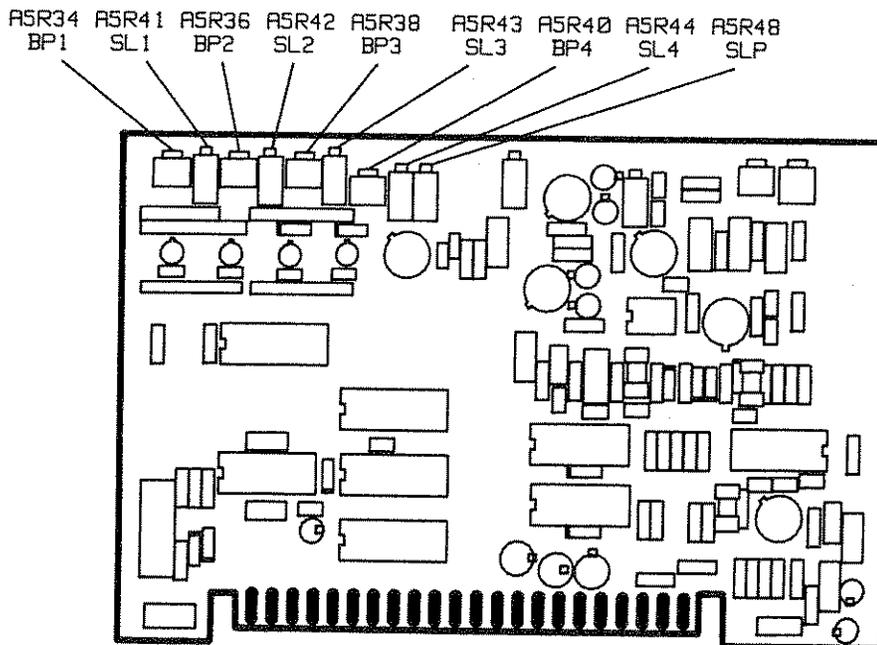

Figure 5-17. Internal Leveled Flatness Adjustment Location
4. Set A5R34, A5R36, A5R38, and A5R40 (BP1 – BP4) fully CW. Set A5R41 through A5R44 (SL1 – SL4) to mid-range. Refer to Figure 5-17.